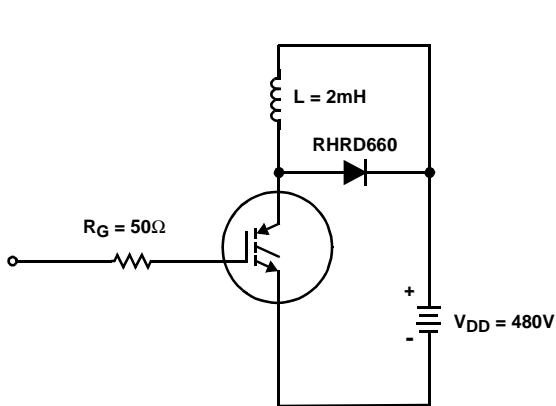

FIGURE 17. INDUCTIVE SWITCHING TEST CIRCUIT
- Values for two Turn-On loss conditions are shown for the convenience of the circuit designer.  $E_{ON1}$  is the Turn-On loss of the IGBT only.  $E_{ON2}$  is the Turn-On loss when a typical diode is used in the test circuit and the diode is at the same  $T_J$  as the IGBT. The diode type is specified in Figure 17.